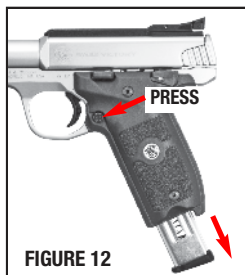

FIGURE 12
- Remove the magazine (FIGURE 12).